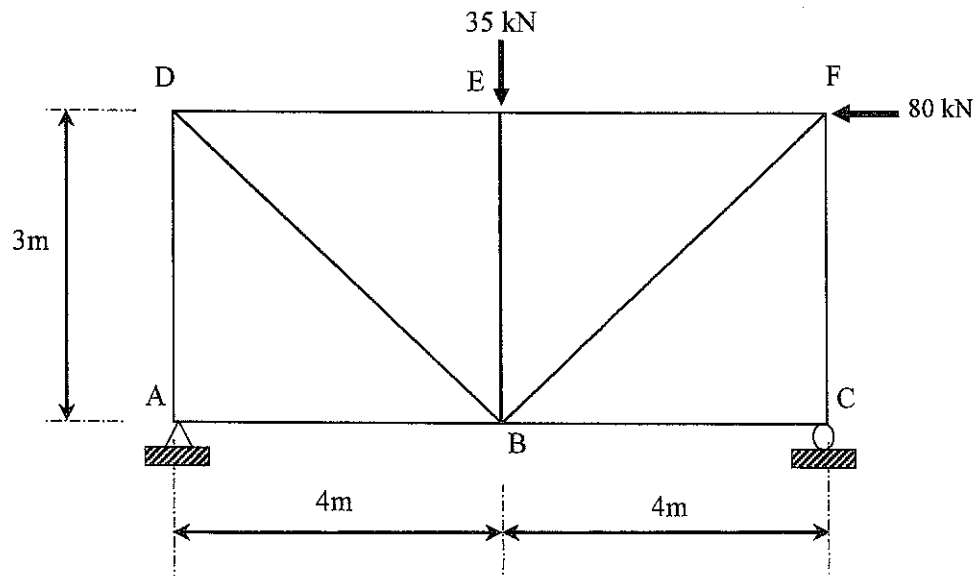

Figure A1(a) / Rajah A1(a)
- (a) A statically determinate truss is subjected to the external loads as shown in **Figure A1(a)**. The truss is subjected to a horizontal load of 80 kN at joint F and vertical load of 35 kN at joint E.